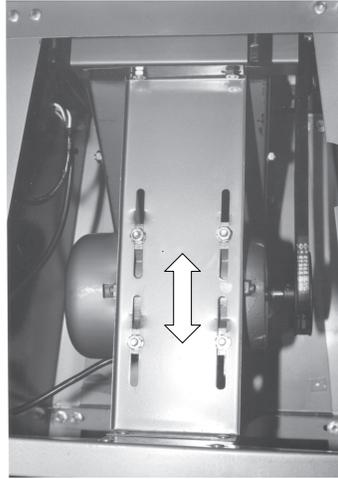

Figure 3
Step 1) Loosen the Nuts and Bolts on the Upright Plate (#4A-Stand Assembly). Move the Motor up or down along the Upright Plate until the correct tension is achieved. Tighten Nuts and Bolts into place-see Figure 3.